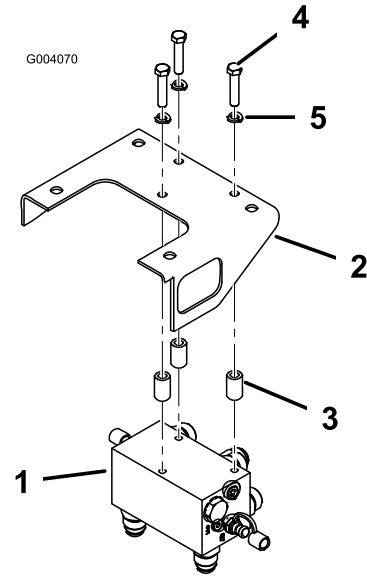

Figure 5
4. Mount the manifold assembly to the underside of the manifold bracket with 3 bolts (3/8 x 1-3/4 inches), 3 lock washers (3/8 inch), and 3 spacers. Position the spacers between the manifold bracket and the top of the manifold. The manifold is to be positioned so the fittings point to the rear, and down (Figure 5).